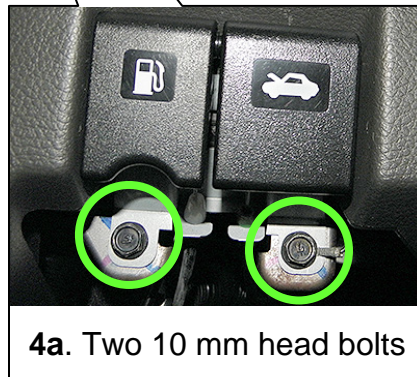

Figure C4
- a. Unbolt the two bolts (Figure C4) that hold the hood lock and fuel door handles.